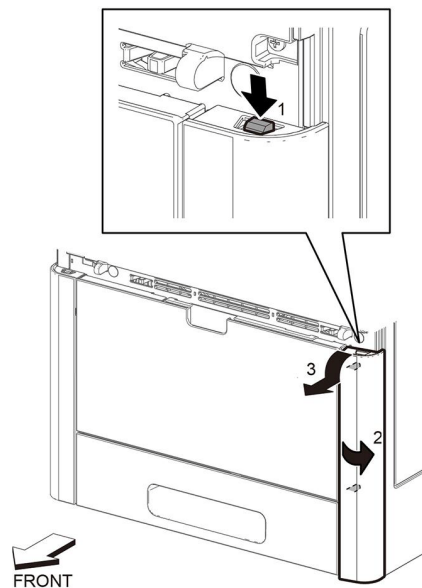

Figure 1 Right side front cover removal
2. Remove the right side front cover, Figure 1:
- a. Press the release button (1).
- b. Rotate the cover out at the middle (2) while pulling down and out on the top of the cover (3), then remove the right front cover.